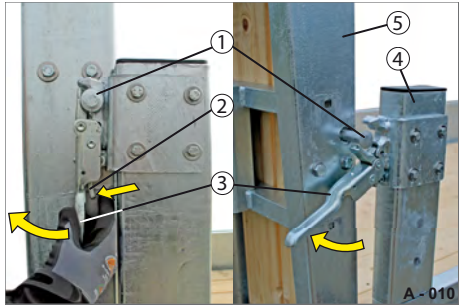

Fig. 19 Unlocking the securing latch
- ▶ Press in the latch retainer (Fig. 19/2) and
- ▶ Pull on the latch bar (Fig. 19/3). The gudgeon (Fig. 19/1) of the ramp (Fig. 19/5) is released.
- ▶ Press the latch lever (Fig. 19/3) towards the corner post (Fig. 19/4) with your hand held flat. The latch retainer (Fig. 19/2) snaps in. The securing latch is locked.